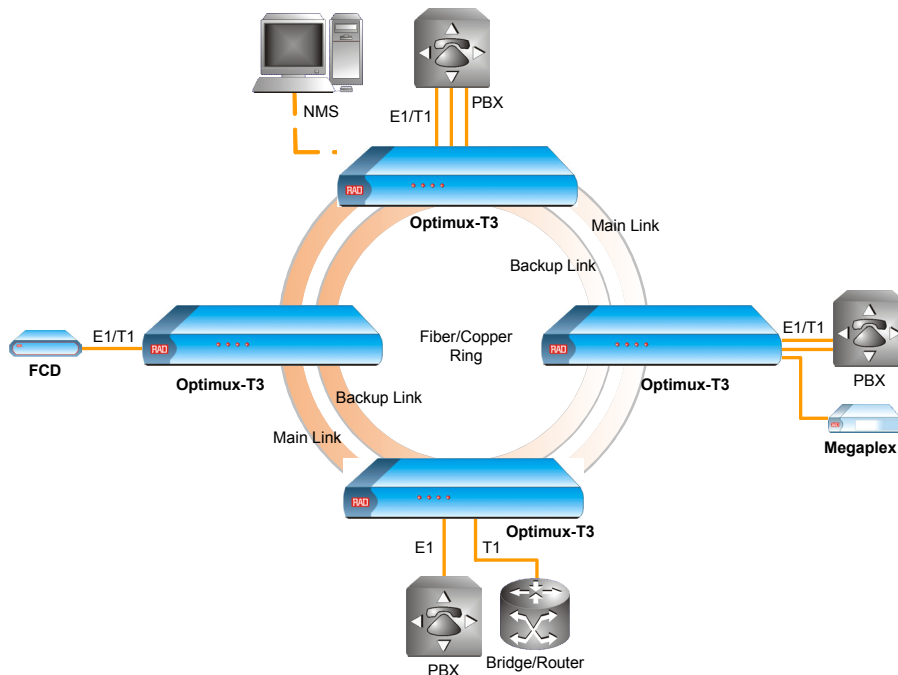

Figure 3. Ring Application
- Optimux-T3 supports chain, as well as ring configurations, facilitating several E1 or T1 services at each node. In ring topology (see Figure 3), Optimux-T3 provides a full path protection mechanism that enables the nodes to maintain all communication services, even in the event of a link failure.
- Two Optimux-T3 units can be connected using WDM (Wavelength Division Multiplexing) or bidirectional technology over a single fiber (SF) link, thus reducing fiber cable costs by 50%.